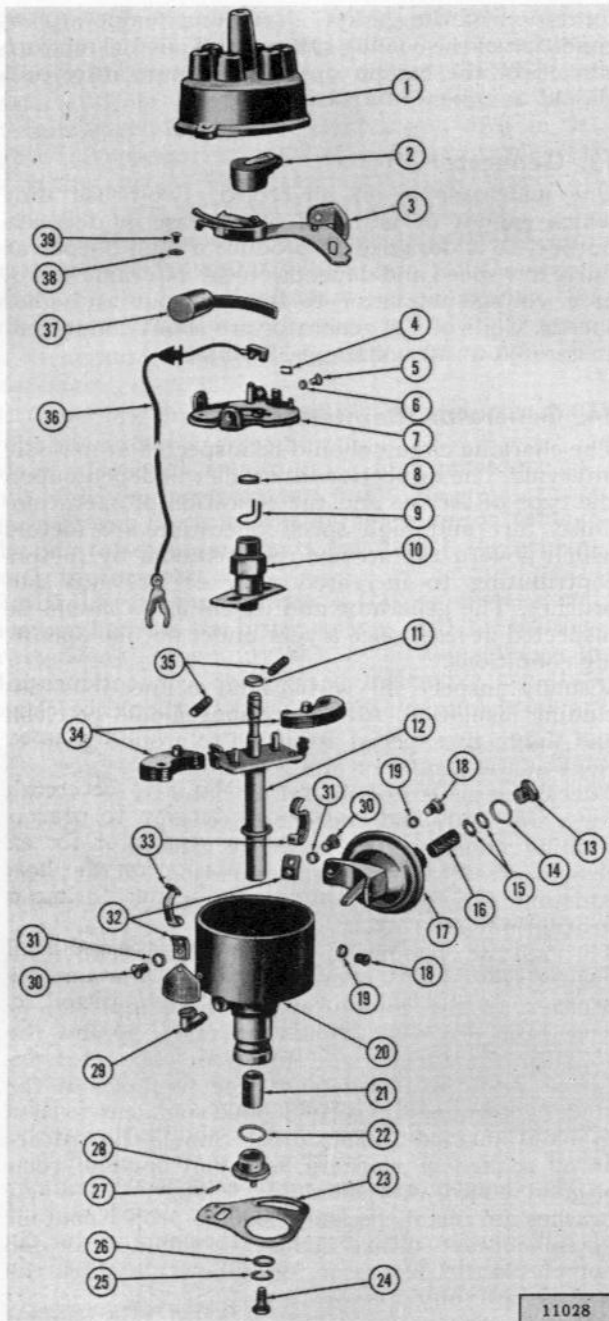

FIG. 176—DISTRIBUTOR
**a.** Loosen the clips (33, Fig. 176) and remove the distributor cap (1) from the distributor housing (20). Remove the rotor (2) from the drive shaft (12). Remove the terminal screw (5) and washer (6) that secure the low tension lead (36) to the breaker contact plate (7), remove the low tension lead, capacitor lead, and the contact set lead from the terminal. Lift the contact set off the breaker contact plate pivot pin. Remove the screw (39) and washer (38) that secure the capacitor (37) to the contact plate; remove the capacitor. Remove the low tension lead insulating grommet from the distributor housing; remove the low tension lead (36). Remove the advance diaphragm arm retainer clip (4) from the arm pivot pin.
**b.** Remove the cam felt wick (8), cam retainer clip (9), cam and stop plate (10), and spacer (11) off the drive shaft. Remove the two governor weight springs (35) and governor weights (34) from the governor assembly plate on the drive shaft.
**c.** Remove two mounting screws (30) washers (31), and clip mountings (32) that secure the cap hold-down clips (33) to the distributor housing; remove the clips. Lift the arm of the advance diaphragm housing (17) off the pivot pin and remove the screw (30) and washer (31); remove the breaker contact plate from the housing.
**d.** Remove the vacuum tube nipple (13), gasket (14), two spacers (15) and the diaphragm spring (16) from the diaphragm housing (17). Remove the two screws (18) and lockwashers (19) that secure the diaphragm housing to the distributor housing; remove the diaphragm housing.
**e.** Drive out the coupling rivet (27) that secures the coupling (28) to the drive shaft (12); remove the coupling and thrust washer (22). Remove the drive shaft from the distributor housing.
**f.** Remove the bolt (24), lockwasher (25), and washer (26) that secure the advance arm (23) to the housing; remove the advance arm. Remove the oiler (29) from the housing.
**g.** If necessary, press out the two drive shaft bushings (21) from the distributor housing.
**b.** Install the drive shaft oiler (29, Fig. 176 in the distributor housing (20). Mount the advance arm (23) on the housing; secure with a bolt (24), lock-washer (25), and washer (26). After every overhaul and every 50 hours of engine operation, add 3 to 5 drops of oil to the drive shaft oiler.
**c.** Install the drive shaft (12) in the distributor housing, being careful not to nick or score the bearing inserts. Position the thrust washer (22) and coupling (28) on the drive shaft; secure with the coupling rivet (27). Drive shaft end play, should be measured with a feeler gage; .003" to .010" [.076 a .254 mm.] end play is allowed. Shaft side play should not exceed .005" [.127 mm.].
**d.** Install the two governor weights (34) and their springs (35) on the governor assembly plate on the drive shaft. Lubricate the governor mechanism with a few drops of clean engine oil. Install the spacer (11) and the cam and stop plate (10) on the drive shaft; secure with the cam retainer clip (9). Saturate the cam felt wick (8) with clean engine oil and install on top of the cam.
**e.** Position the two mounting clips (32) and hold-down clips (33) on the distributor housing; partially insert the two screws (30), and washers (31). Position the breaker contact plate (7) in the housing; secure with the two clip mounting screws and washers and a third screw and washer.
**f.** Insert the arm of the advance diaphragm into the opening in the distributor housing. Install the arm on the arm pivot pin in the breaker contact plate; secure with the retainer clip (4). Secure the advance diaphragm housing (17) to the distributor housing with a screw (18) and washer (19). Install the diaphragm spring (16), two spacers (15), gasket (14), and vacuum tube nipple (13) in the diaphragm housing.
**g.** Insert the low tension lead (36) into the grommet opening in the distributor housing; install the insulating grommet in the housing wall. Position the capacitor (37) on the breaker contact plate; secure with a screw (39) and washer (38). Install the breaker contact set (3) on the breaker plate pivot pin. Connect the contact set lead, the capacitor lead and the low tension lead terminal to the lead mounting terminal with the screw (5) and washer (6). Lubricate the contact set pivot pin with one drop of oil. If the contact set is of nylon construction, do not lubricate. See engine tune-up section for contact adjustment and vacuum advance checking.